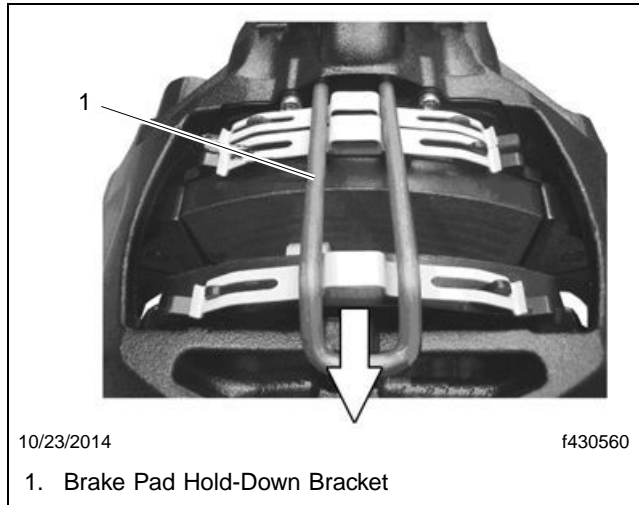

Fig. 4, Removing the Brake Pad Hold-Down Bracket
25. Putting slight pressure on the brake pad hold-down bracket with your hand, remove the bracket. See **Fig. 4**.